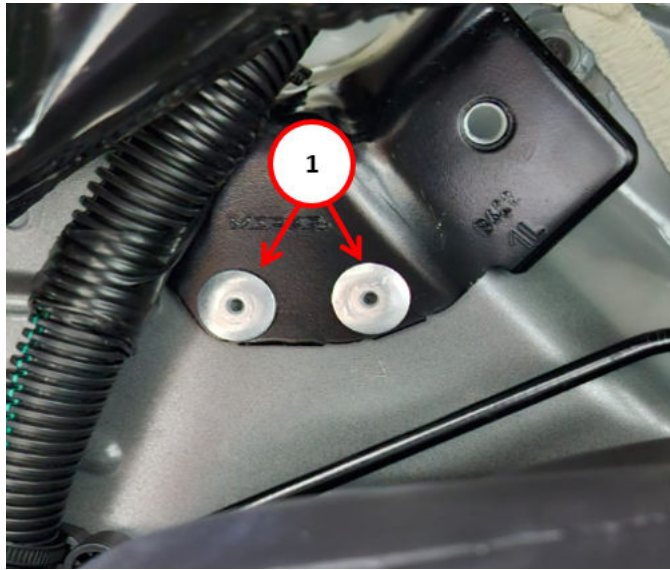

Fig. 2
3. Position support bracket on the left-hand floor and secure using two rivets with a manual riveter Fig. 2.